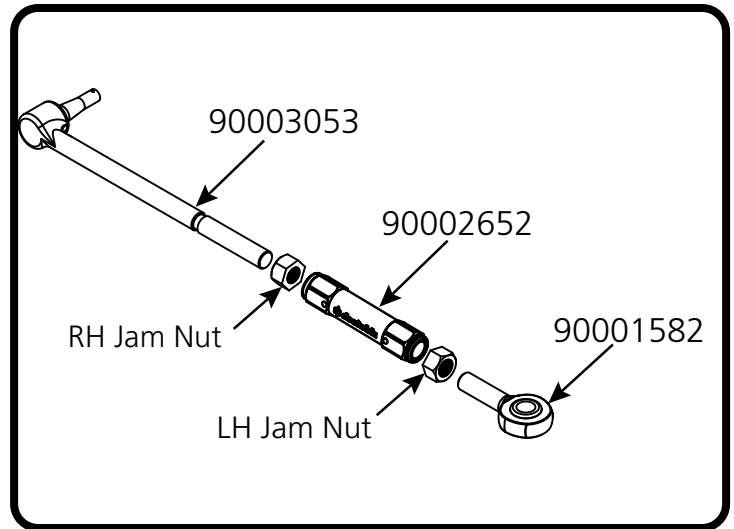

Figure 26
**32.** Assemble the tie rods as illustrated in Figure 26. We recommend starting with a center-to-center length of 15", with an equal amount of thread engagement at both ends.